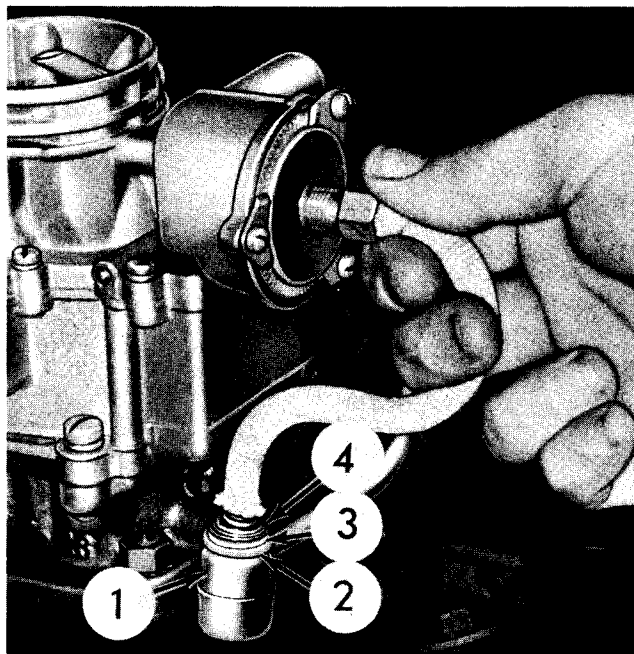

FIG. 6
18. Insert the tube-and-loom assembly down into the heater tube and position the spring so that there will be ample compression of the spring on the seal at final assembly. Attach the tube-and-loom assembly to the choke cover (see Fig. 6)